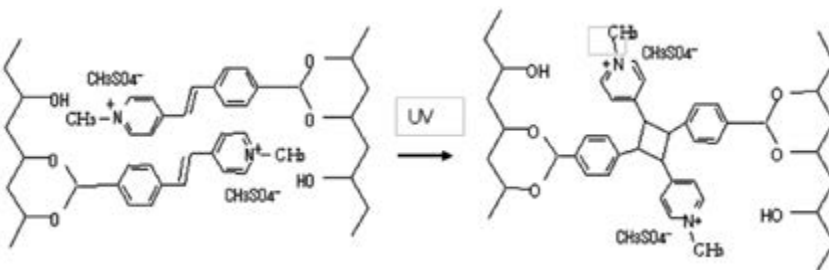

Figure 1: Photopolymer with PVA-SBQ
- 2) Figure 1 is the diagram to show how the cross-linking chemical reaction takes place. Photopolymer with PVA-SBQ, a new sensitiser, was a ready-to-use one-part type material with a shelf life that was drastically extended for much longer and was more sensitive to UV wavelengths resulting in an image which exposed much faster than conventional sensitisers. Furthermore, many more hardening processes of the photopolymer occurred, such as radical polymerisation of the acrylic monomer